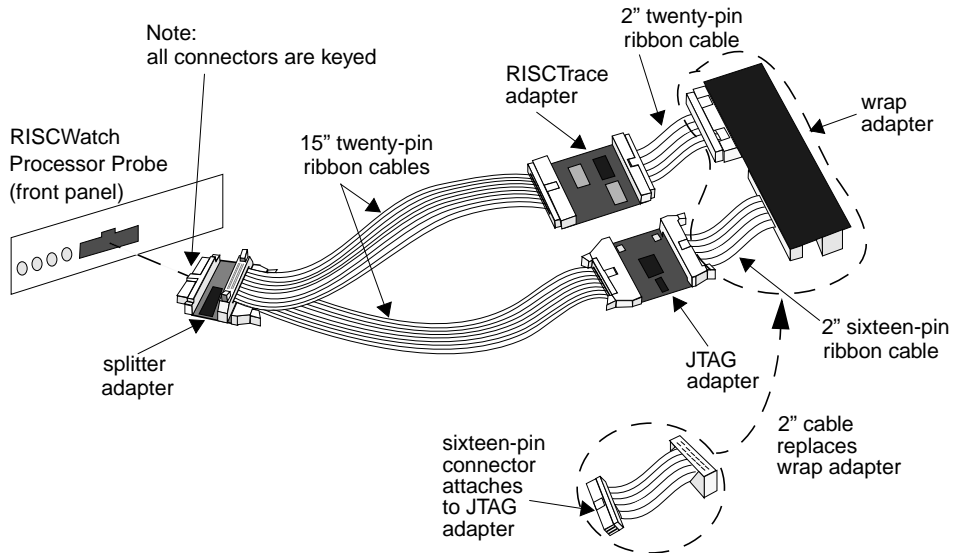

Figure 2-2. JTAG Adapter with RISCTrace Assembly
5. If your adapter assembly resembles Figure 2-2, you have a JTAG adapter with RISCTrace. To assemble the adapter and cables, perform the following steps:
- a. Remove the "wrap" adapter, if attached to the cables (see Figure 2-2).